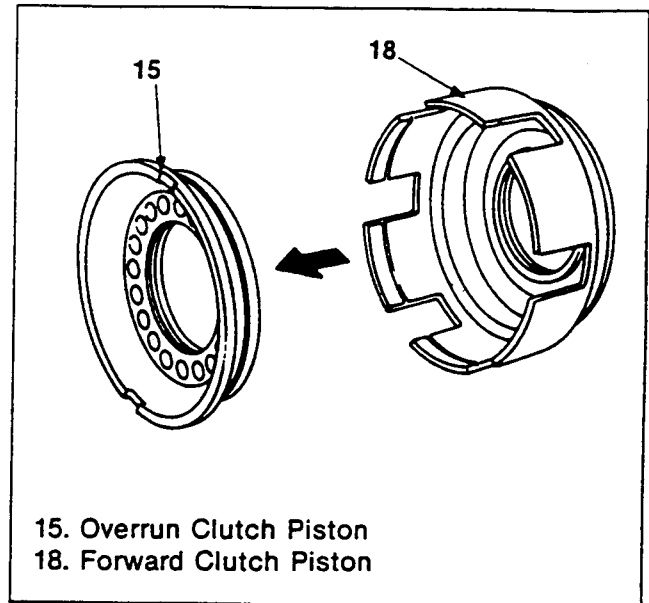

Figure 148. Clutch Piston Removal (2)
2. Remove the overrun clutch piston from the forward clutch piston (figure 148).